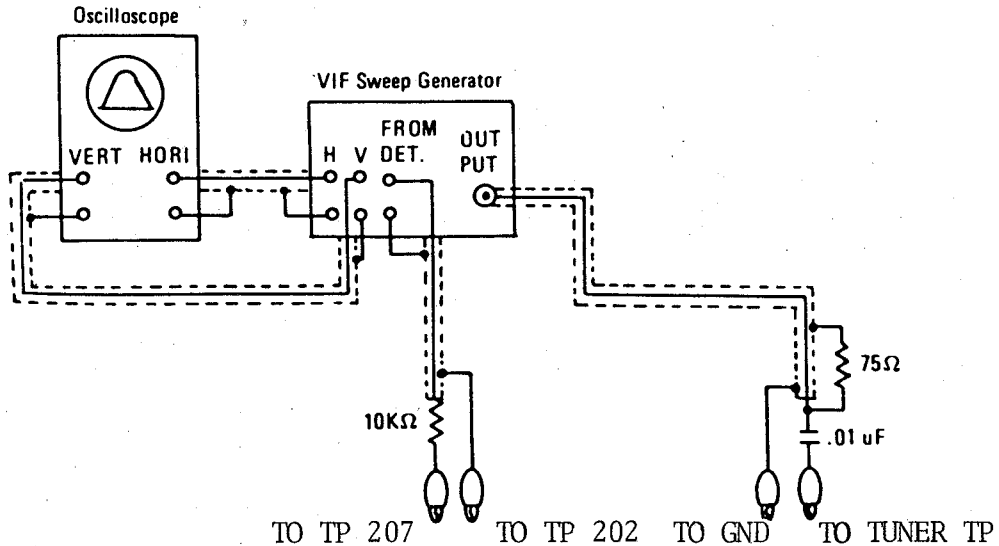

FIG. 2
A. PREPARATION STEP (SEE FIG. 2)